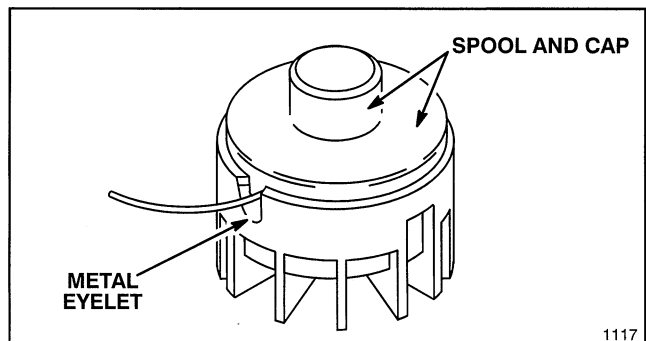

Figure 13
6. Insert line into metal eyelet in cutter head (Fig. 13) and hold line with one hand while using your other hand to place spool and cap on spring. Align cap tabs with slots in cutter head, press in tabs and push down cap and spool to lock cap in place (Fig. 13).